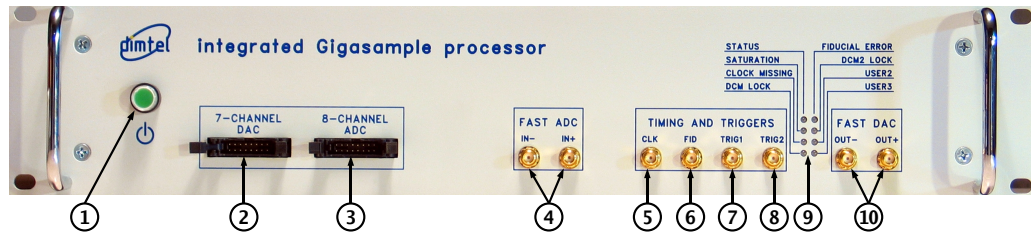

Figure 2: Front panel features
2. Connect RF clock at -3 dBm nominal level (Fig. 2, item 5);
3. Connect single-ended high-speed ADC input signal to Ain+ (Fig. 2, item 4). The FS swing of this signal should be 190 mV peak-to-peak;
4. Connect a $50\ \Omega$ terminator to Ain- (Fig. 2, item 4);
5. Connect high-speed DAC output(s) (Fig. 2, item 10) to the appropriate back-end unit;
9. Push the power button (Fig 2, item 1) to turn on the system;
11. Push the power button (Fig 2, item 1) to turn the system off;
- Connect the 16-pin ribbon cable between the 7-channel **DAC** (Fig. 2, item 2) and the 8-channel **ADC** (Fig. 2, item 3);
- Connect 500.1 MHz clock to the **RF** clock input (Fig. 2, item 5);
- Terminate `Ain-` fast **ADC** input (Fig. 2, item 4);
- Terminate `Aout-` fast **DAC** output (Fig. 2, item 10);
- Make sure fiducial input is not driven (Fig. 2, item 6);